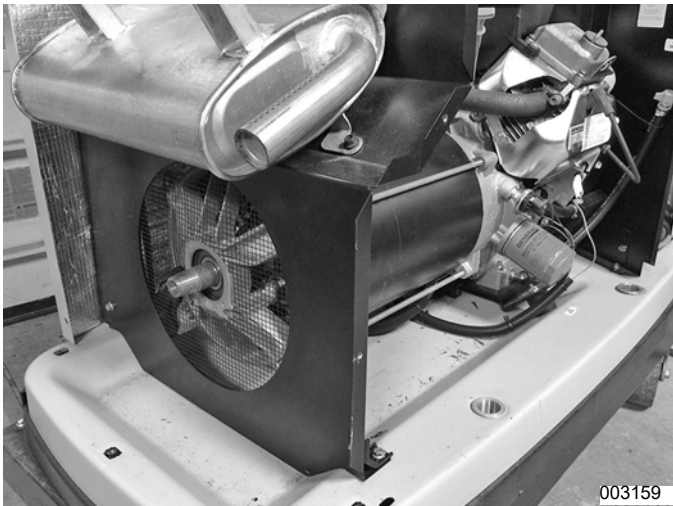

Figure 5-50.
16. **Remove Alternator Divider Panel:** See Figure 5-50. Depending on the unit, use a 10 mm socket or 4 mm Allen wrench to remove two bottom base bolts.